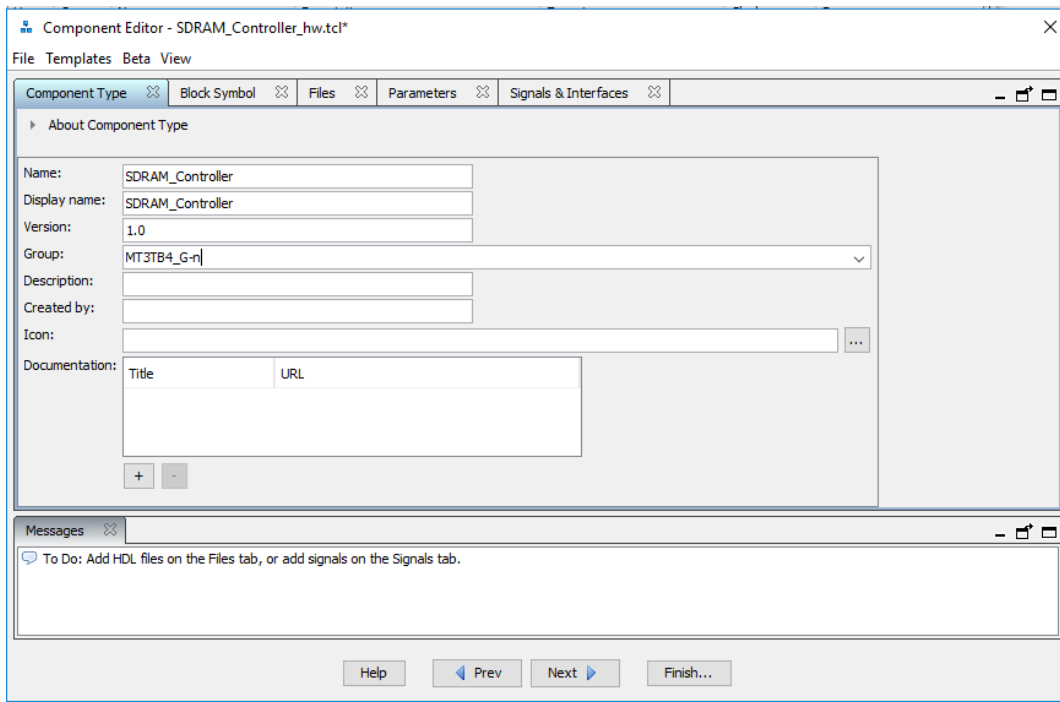

Figure 4: Specifying Component Type
- In the window that opens, define your own component for the system by specifying both the "Name" and the "Display Name" as "SDRAM\_Controller". In the "Group" field, input "MT3TB4\_G-n", where "n" is your lab group number (Figure 4). Click on "Next".